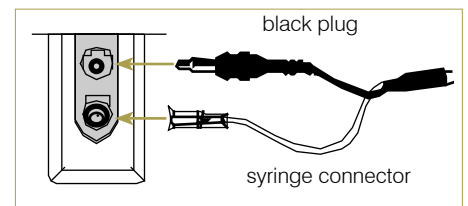

Figure B-6: Pipettor connector socket (on front of VetTest analyzer)
4. Push the black plug into the receptacle (Figure B-6).